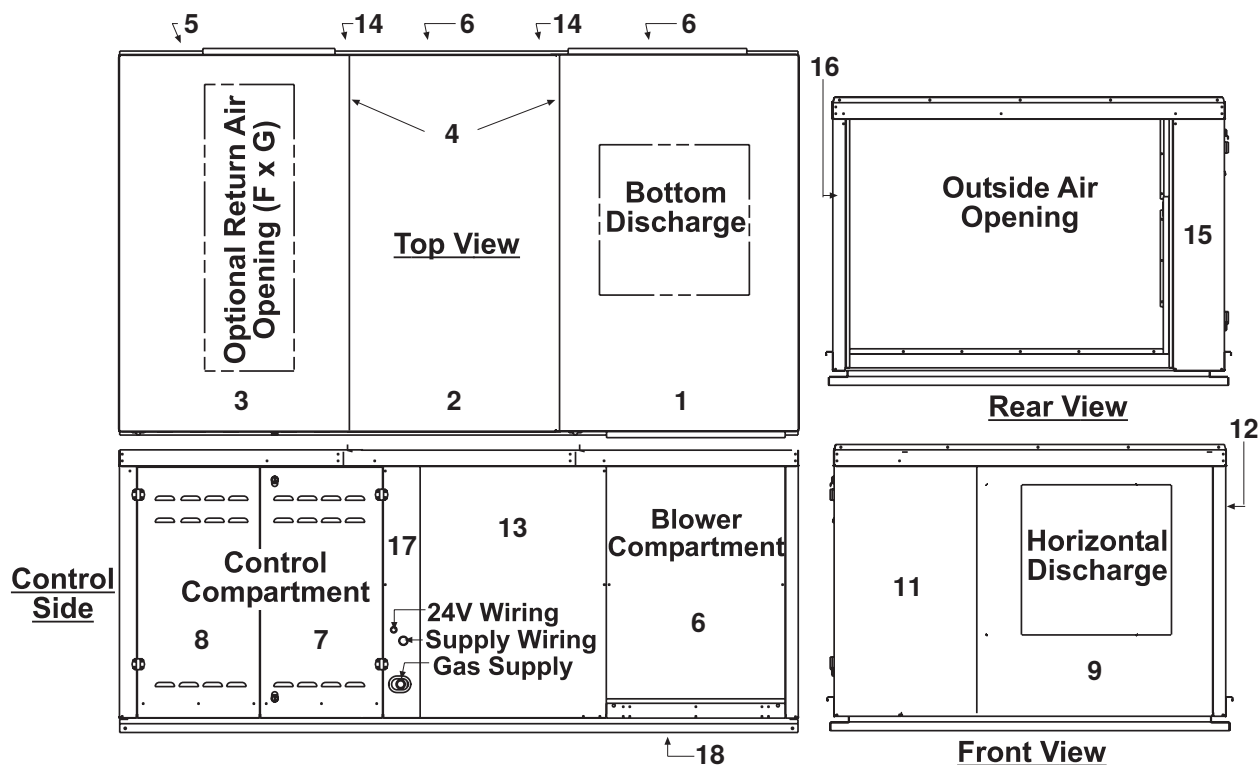

Figure 20. Cabinet Components—Models RDF-2 and RDF-3, Series 3 (Refer to Table 37)
- Cabinet components for model RDF-2 and RDF-3 series 3 units are listed in Table 37 and shown in Figure 20.